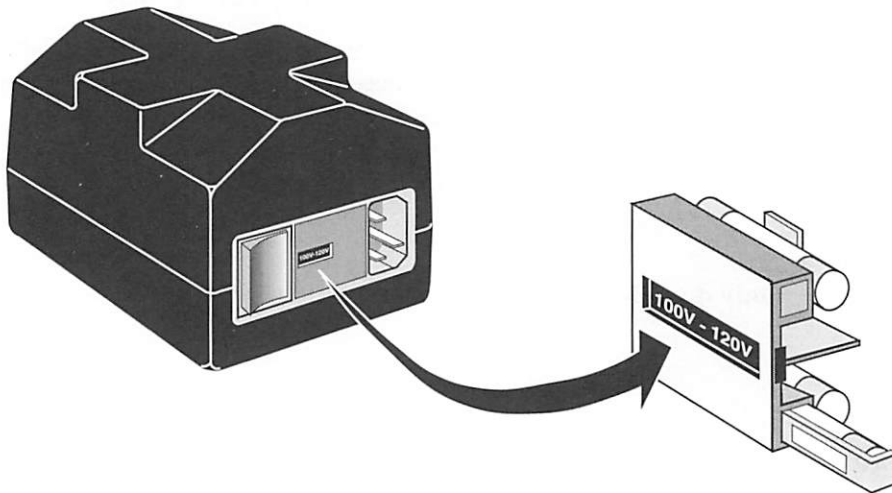

Figure 6-14. Voltage indicator window
- 3 Turn the power adapter so you can see the window that indicates the voltage setting (see Figure 6-14 on page 6-26).
The fuse carrier is located between the power adapter's ac mains carrier and the power switch (see Figure 6-14). The voltage indicator window is contained within the fuse carrier.